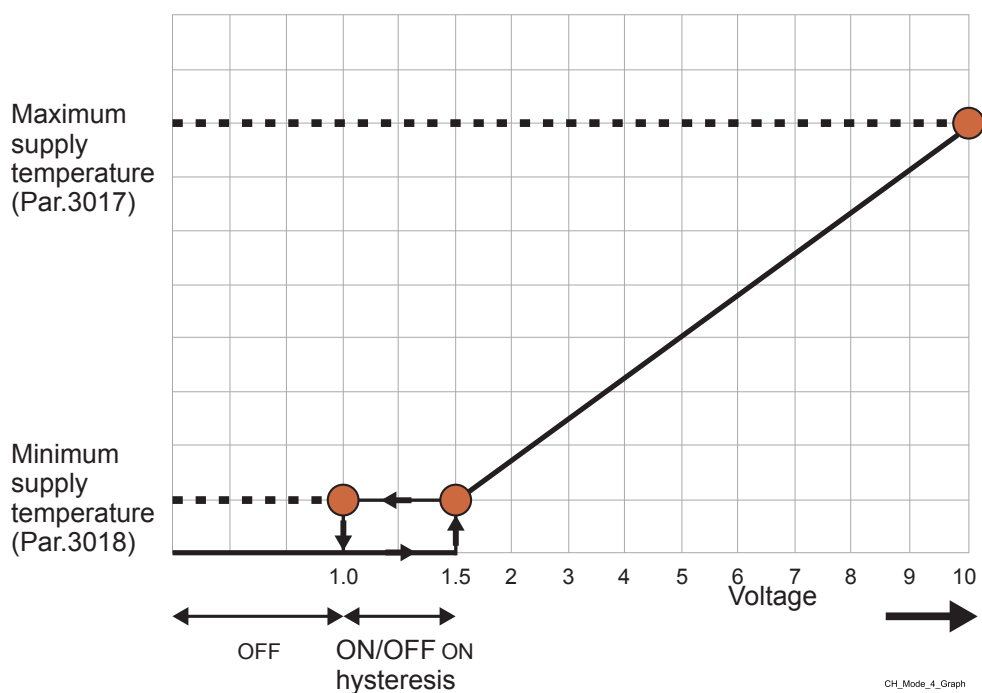

Figure 13-3 - 0-10 Vdc analogue input operating rules
- 3.- The appliance can now be controlled via 0-10 Vdc signal according to the rules in figure 13-3;